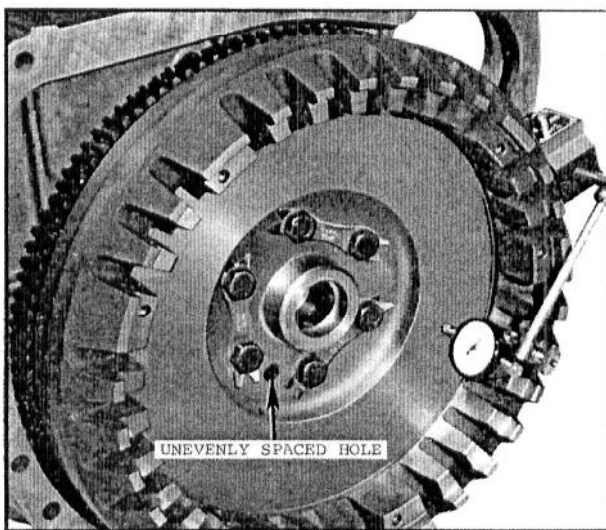

Fig. 29 - Measuring Flywheel Face Run-Out
2. Position flywheel against crankshaft flange so the unevenly spaced holes align. This insures that flywheel timing marks are in a correct position in relation to the crankshaft. (See Fig. 29.) Do not fully tighten capscrews.
4. Check the flywheel face run-out as shown in Fig. 29. The total indicator reading should not exceed .001" per radius from the flywheel center to the point of measurement.